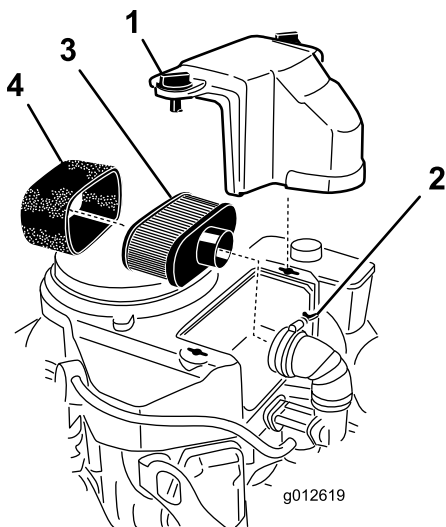

Figure 40
3. Clean around the air cleaner to prevent dirt from getting into the engine and causing damage (Figure 40).
4. Unscrew the cover knobs and remove the air-cleaner cover (Figure 40).
5. Unscrew the hose clamp and remove the air-cleaner assembly (Figure 40).
6. Carefully pull the foam element off the paper element (Figure 40).
Note: If it is very dirty, replace the paper element with a new one (Figure 40).
1. Carefully slide the foam element onto the paper air-cleaner element (Figure 40).
2. Place the air-cleaner assembly onto the air cleaner base or hose and secure it (Figure 40).
3. Place the air-cleaner cover into position and tighten the cover knob (Figure 40).